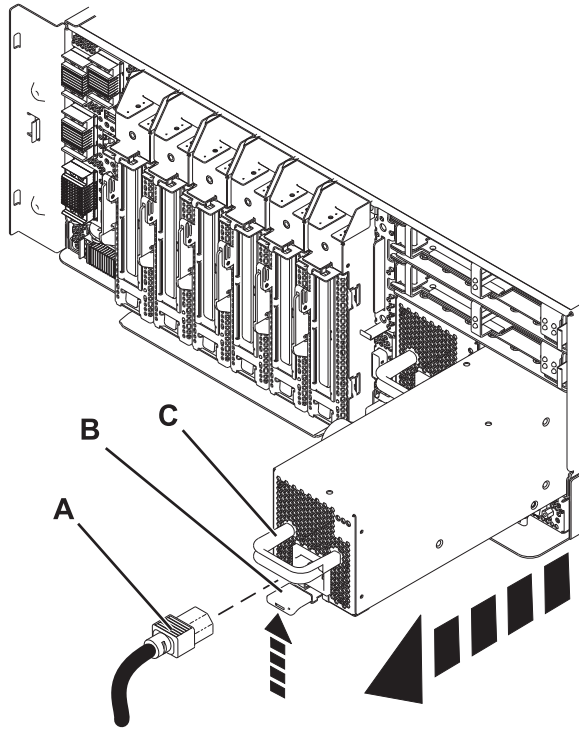

Figure 2. Removing the power supply
6. Lift the tab **(B)** toward the power cord retainer **(C)** to release the power supply. Pull the power supply away from the system, as shown in Figure 2 on page 4.